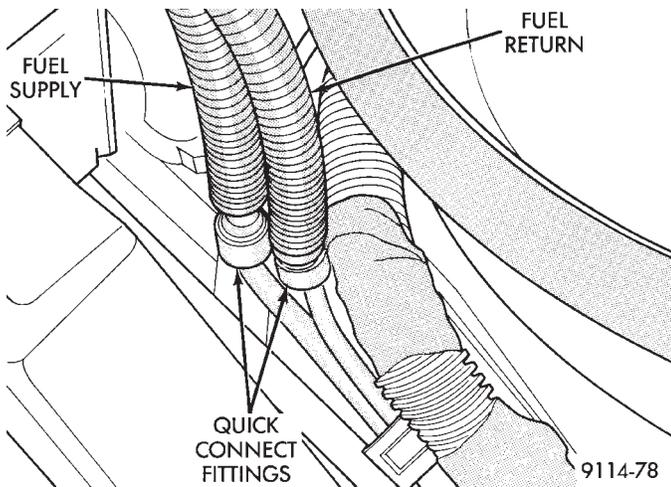

Fig. 9 Fuel Supply and Return Hose Connections
(11) Remove fuel supply and return hose quick connect at fuel tube assembly (Fig. 9).
(3) Inspect quick connect fittings for damage, replace if necessary Refer to Fuel System, Group 14 for procedure. Lube tube with clean 30w engine oil, Connect fuel supply and return hoses to chassis tube assembly. Check connection by pulling on connector to insure it locked into position (Fig. 9).